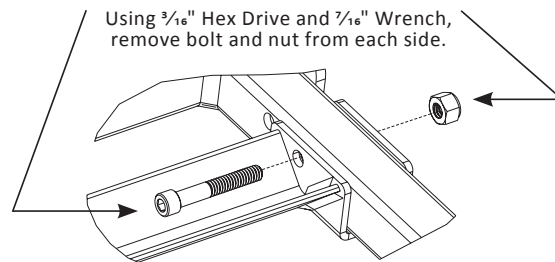

Figure 6-21
- Using a $\frac{3}{16}$ " hex drive and $\frac{7}{16}$ " wrench, remove the bolt and nut from each side of the platform. *See Figure 6-21.*